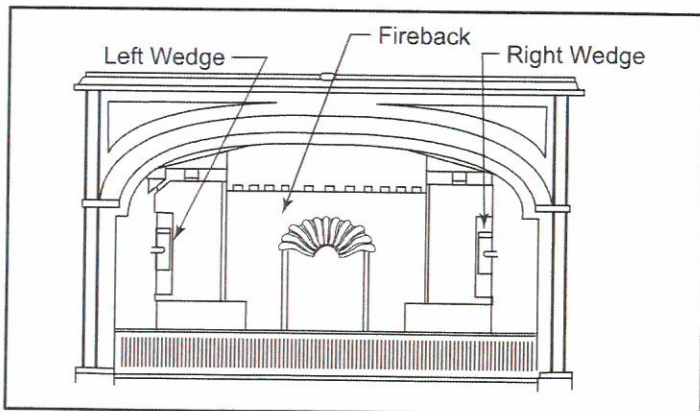

Figure 2 - Tap the wedges out with a hammer
4. Use a hammer to tap the two wedges upward and out of the stove. Figure 2.